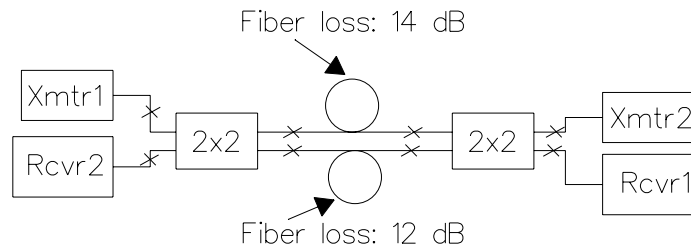

Figure 1: Fiber bidirectional link for Problem 4.
4. Consider the bidirectional singlemode fiber link shown in Fig. 1 below. The splices (indicated by the “x” in figure) have a loss of 0.5 dB. The excess loss of the 2x2 couplers is one dB (and does *not* include the splice losses). Laser #2 is the source used in transmitter #1. The fiber lengths in each leg are equal.